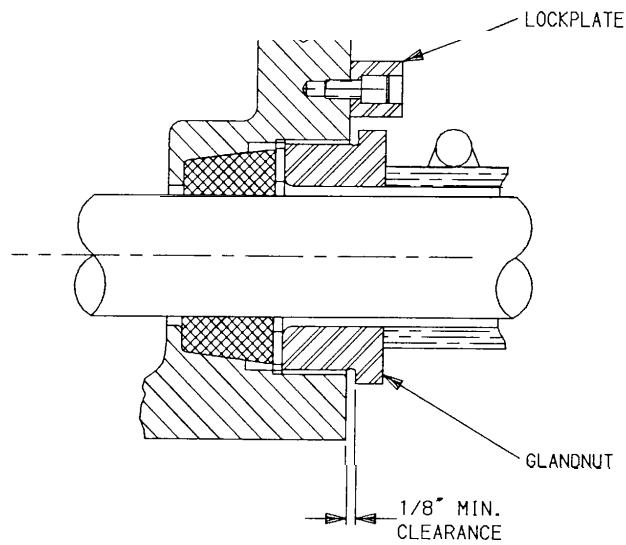
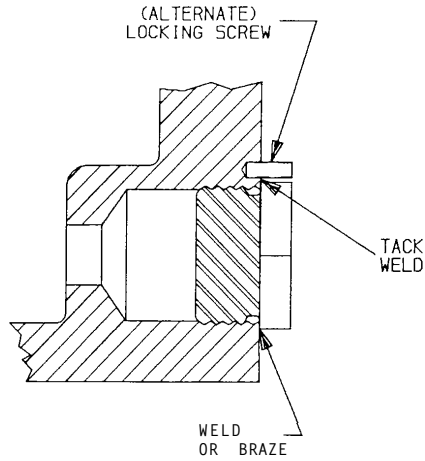

FIGURE 2
FIGURE 3
- (WEEKLY) 1. () All lead entrances (packing glands) are assembled so that the cable jacket penetrates into the enclosure and when tightened, a 1/8" minimum clearance remains between the packing nut and stuffing box (Figure 2).
- (WEEKLY) 2. () All packing nuts and stuffing boxes are secured from loosening by a Locking screw, wire, or other means (Figure 2). All unused lead entrances are closed with metal plugs which are secured in place by spot welding, brazing, or equivalent (Figure 3).
- (WEEKLY) 3. () Headlight glands are sealed and ASSEMBLED SO THAT THE CABLE JACKET PENETRATES INTO THE ENCLOSURE AND WHEN TIGHTENED, A 1/8 INCH MINIMUM CLEARANCE REMAINS BETWEEN PACKING NUT AND THE STUFFING BOX. (Figure 2)
- (WEEKLY) 4. () All unused Lead entrances are closed with metal plugs which are secured in place by spot welding, brazing, or equivalent (Figure 3).
- (WEEKLY) 2. () "Alternator Housing Glands" are sealed and ASSEMBLED SO THAT THE CABLE JACKET PENETRATES INTO THE ENCLOSURE AND WHEN TIGHTENED, A 1/8 INCH MINIMUM CLEARANCE REMAINS BETWEEN PACKING NUT AND THE STUFFING BOX. (Figure 2)